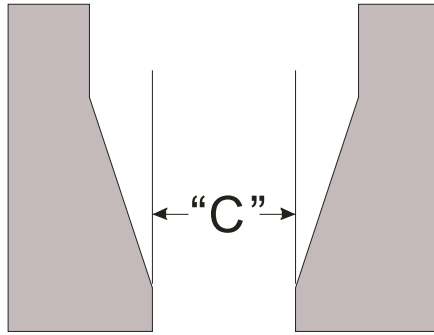

Figure 4: "G" Series center bore
1. Measure the center bore of the elevator ("C" Figure 4)